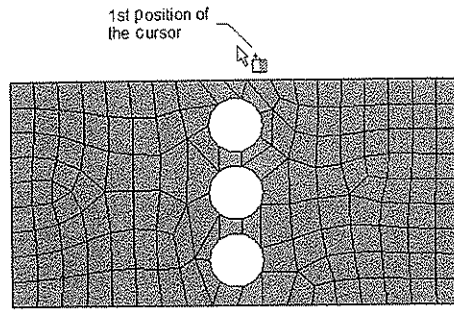

Figure 7-26 First position of the cursor for creating section planes
- 3. Move the cursor to a position similar to the one shown in Figure 7-26.